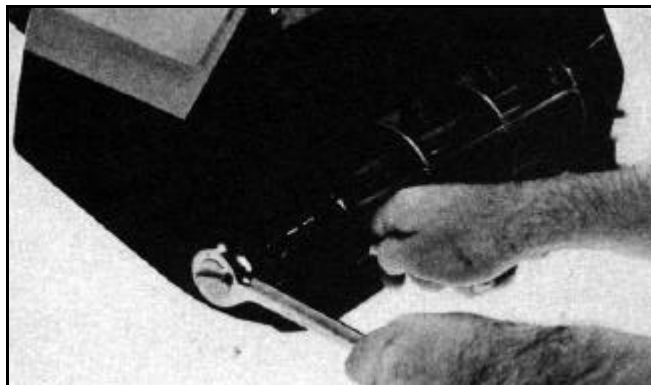

Figure 238
1. Remove the rotor pin, locknut, and washer securing rotor to right side of housing (Figure 238).